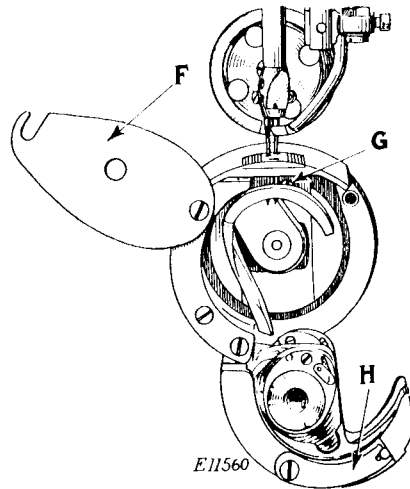

FIG. 12
Turn the balance wheel over from you until the needle bar is at its lowest position, turn the cover (F, Fig. 12) aside as shown in Fig. 12. Lift the spring (H, Fig. 12) and lower the shuttle race, the shuttles will be lowered from their positions into the race as shown in Fig. 12. After opening the race, by pulling the hinged portion downward, lift out each shuttle, open the shuttle covers and when the shuttles are turned downward, the bobbins will drop out.
Place the shuttles in the shuttle race with the point of each shuttle even with the edge of the race, and with the thread delivery eye of each shuttle toward the right as shown in Fig. 12.
The feed dog should be set so that when it is raised, slightly less than the full depth of the teeth will project above the throat plate. To raise or lower the feed dog, loosen the screw (G, Fig. 12) and raise or lower the feed dog as required, then tighten the screw (G).